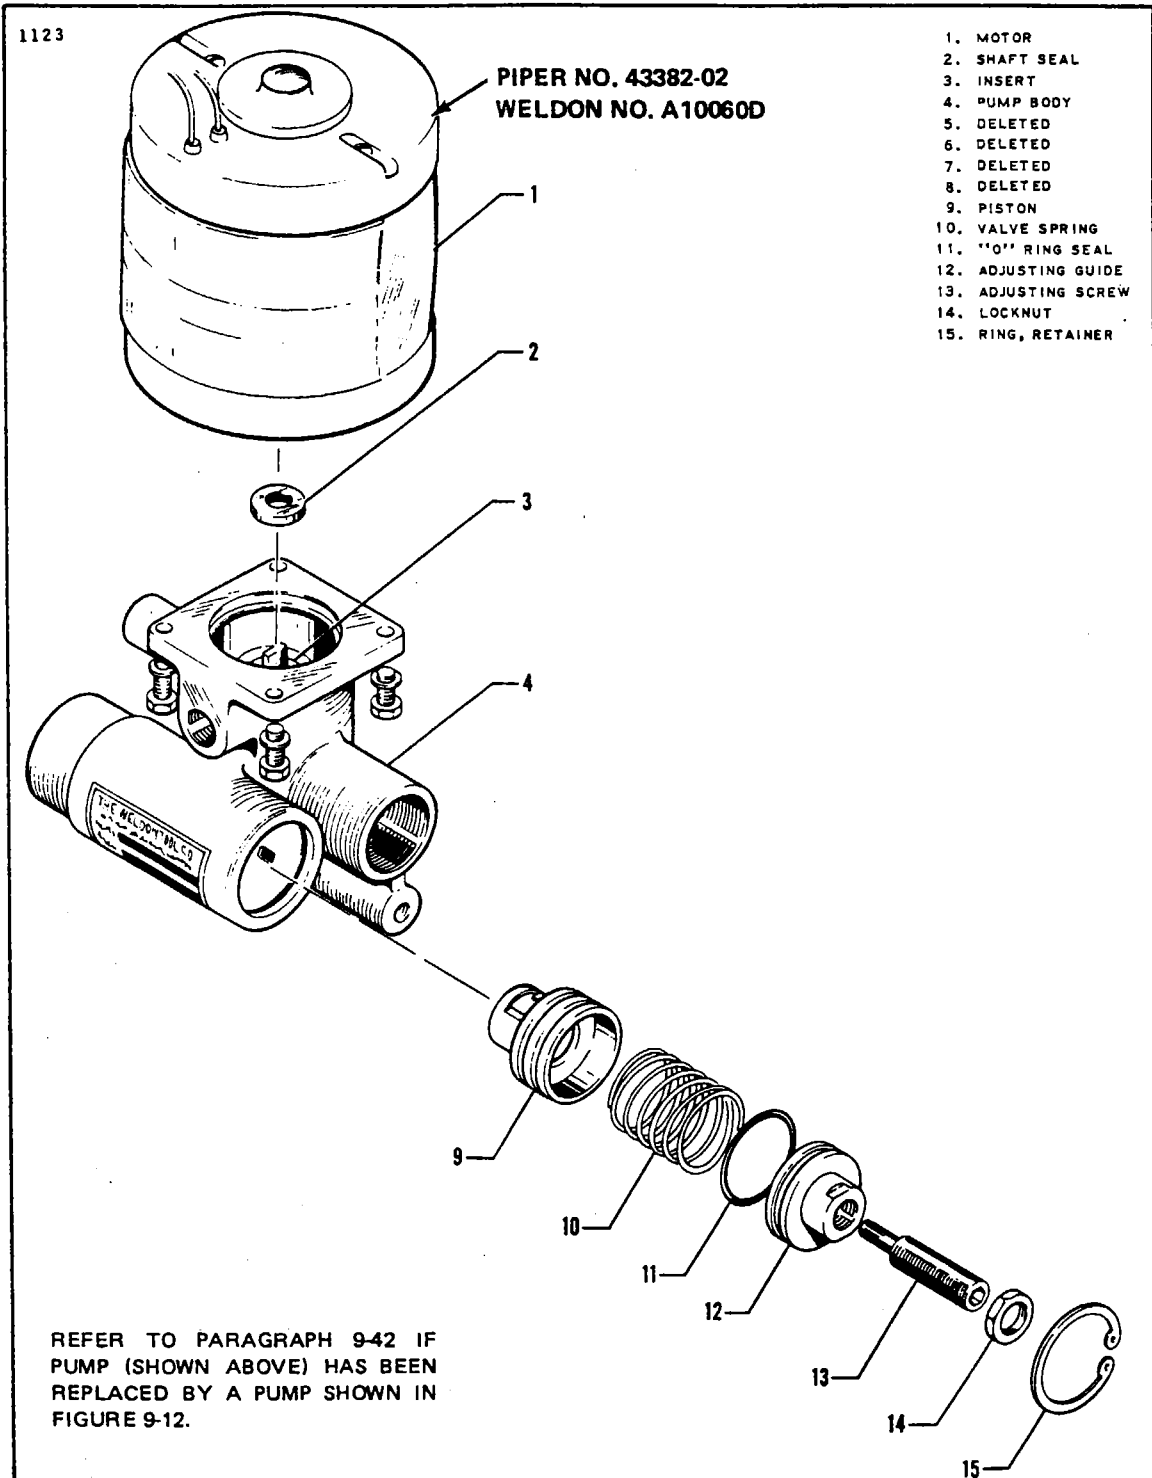

Figure 9-12a. Electric Fuel Pump (PA-31-300)
9-50. DISASSEMBLY OF ELECTRIC FUEL PUMP. (Refer to Figure 9-12a.) The electric motor furnished with this pump is not economical to overhaul or service, therefore, replacement with a new motor is recommended.
9-52. ASSEMBLY OF ELECTRIC FUEL PUMP. (Refer to Figure 9-12a.)
- b. Install the piston assembly (9) into the pump body (4) in accordance with Figure 9-12a. Insert the valve spring (10) into the end of the piston assembly (9).
- c. Assemble the "O" ring (11) onto the guide (12) and install the valve adjusting screw (13) and locknut (14) into the guide (12).
- d. Install the adjusting guide assembly (12) into the pump body (4) as shown in Figure 9-12a for proper reassembly of component parts.
- e. Using a light arbor press, apply pressure to the valve adjusting screw (13) and install the Tru-Arc retaining ring (15) with Tru-Arc pliers.
It is advisable to have full 28-volt DC current when running the pump in order to obtain the correct pressure of 30 ± 2 psi for 43382-02 pump (used on PA-31-300 and shown in Figure 9-12a); 44 ± 1 psi for pumps 42113-02 or -06 (used on PA-31-310 or as a replacement on PA-31-300, shown in Figure 9-12), or 40 ± 2 psi for 42113-05 pump (used on PA-31-325, shown in Figure 9-12) maximum no flow.
e. When a steady flow of fuel is obtained, close the bypass valve and check the reading on the pressure gauge. It should read 30 ± 2 psi for pump 43382-02 (used on PA-31-300 and shown in Figure 9-12a); 44 ± 1 psi for pumps 42113-02 or -06 (used on PA-31-310 or as a replacement on PA-31-300, shown in Figure 9-12), or 40 ± 2 psi for 42113-05 pump (used on PA-31-325, shown in Figure 9-12) maximum no flow. On PA-31-325 if the boost pump is operated in conjunction with electric fuel pump, the pressure should be 47 to 54 psi, maximum no flow. Do not keep the bypass valve closed for more than one minute during pump operation and adjustment.